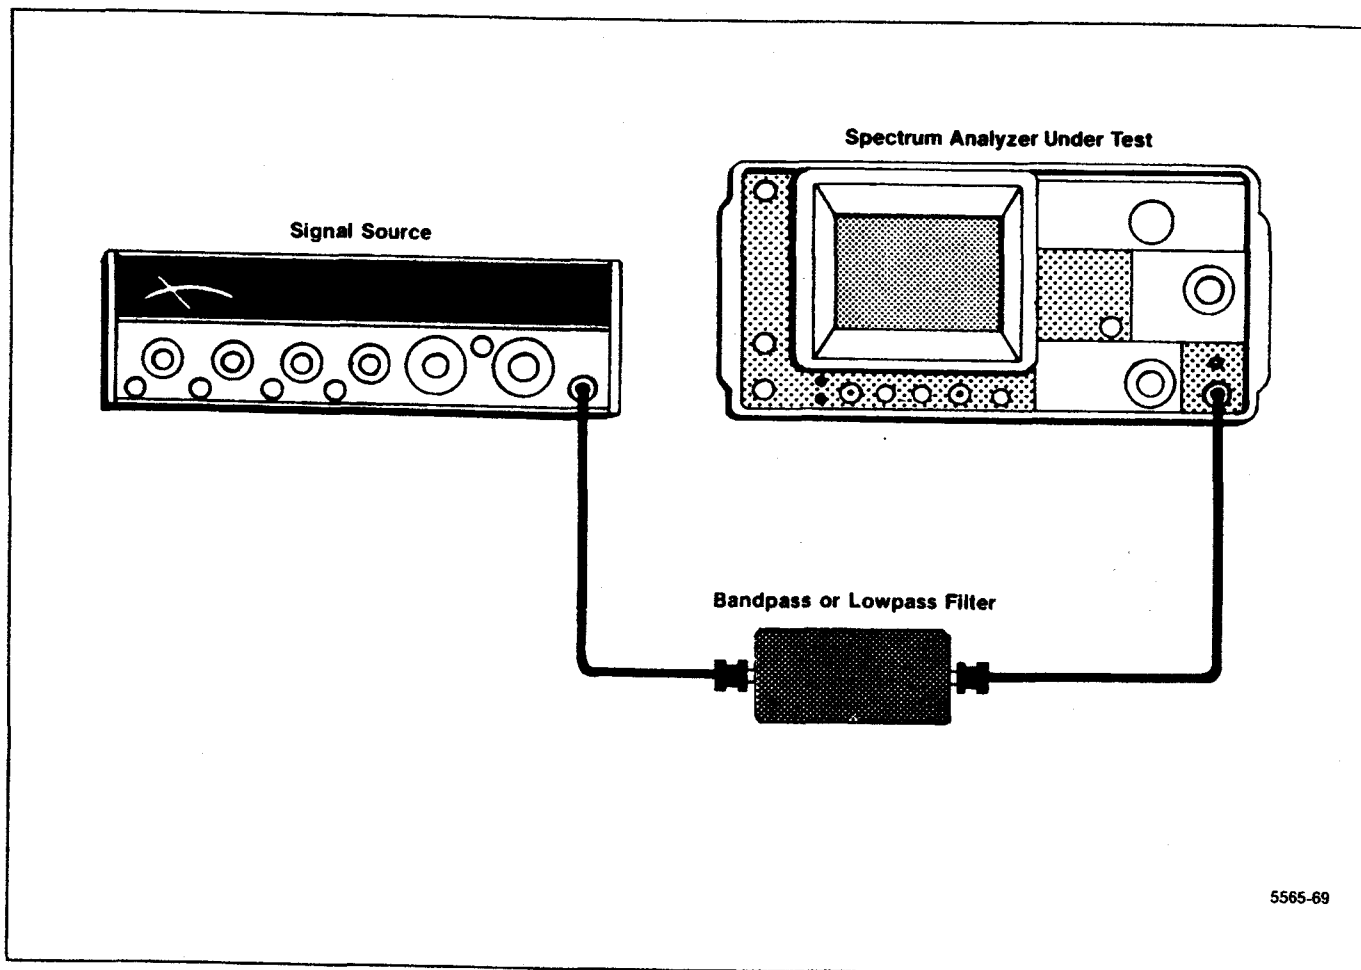

Figure 4-18. Test equipment setup for checking harmonic distortion.
a. Connect the test equipment as shown in Figure 4-18, and set the Spectrum Analyzer controls as follows:
In Figure 4-18, the filter shown must have a minimum of 40 dB rolloff to attenuate multiples of the generator frequency, and the frequency of the signal generator depends on the frequency characteristics of the filter.